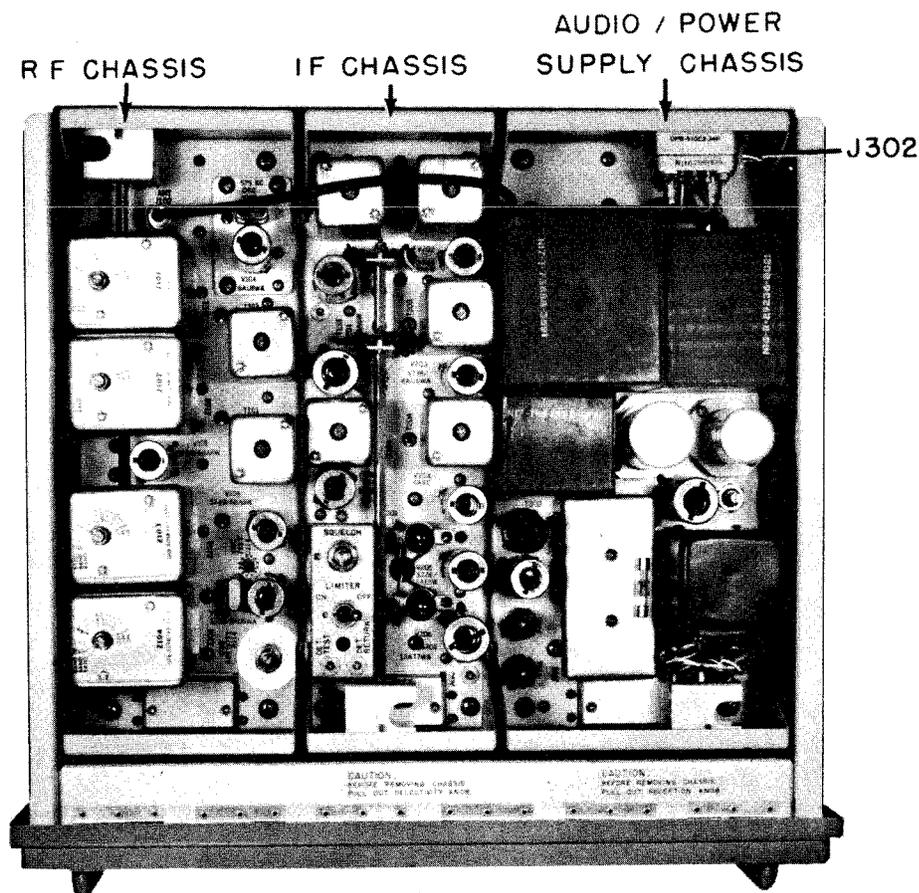

Figure 1-6. Top View of Chassis out of the Case
*d. CHASSIS ASSEMBLIES.*—These units as indicated in figure 1-6 are completely wired assemblies, designed as plug-in units for quick removal and replacement. End angle brackets, at the front and rear, form handles which facilitate removal and handling. Four mounting stand-offs (one at each corner) with captive screws provide means of fastening the units to the panel-frame assembly. The receptacle connector, located at one end, is covered by a plate to avoid contact with voltage carrying wires. All coils and tubes are shielded except V302 which is held down with a tube clamp.
(1) RF CHASSIS.—This unit, shown in figures 1-6, 2-4 and 2-5, contains the following stages: an RF Amplifier (V101), a Channel Determining Oscillator (V102), the First Mixer (V103), the 455 Kc IF circuits and the 575 Kc Oscillator (V104). All coils are contained in individual aluminum cans for isolation and reduction of interaction between different parts of the circuits. The RF can tops have frequency calibrations to aid frequency changing. A small separate sub-chassis, which is mounted slightly higher than the remaining chassis level, mounts the components of the 575 Kc Oscillator includ-